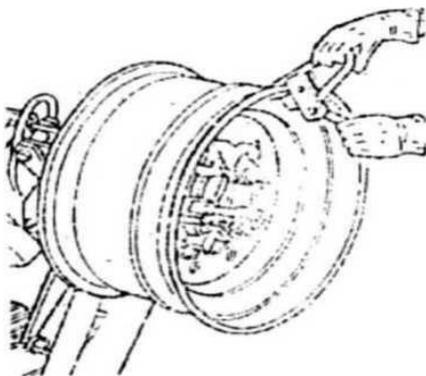

Fig13
3) Clamp the pliers at the highest point on the outside of the edge of the rim(Figure 13)